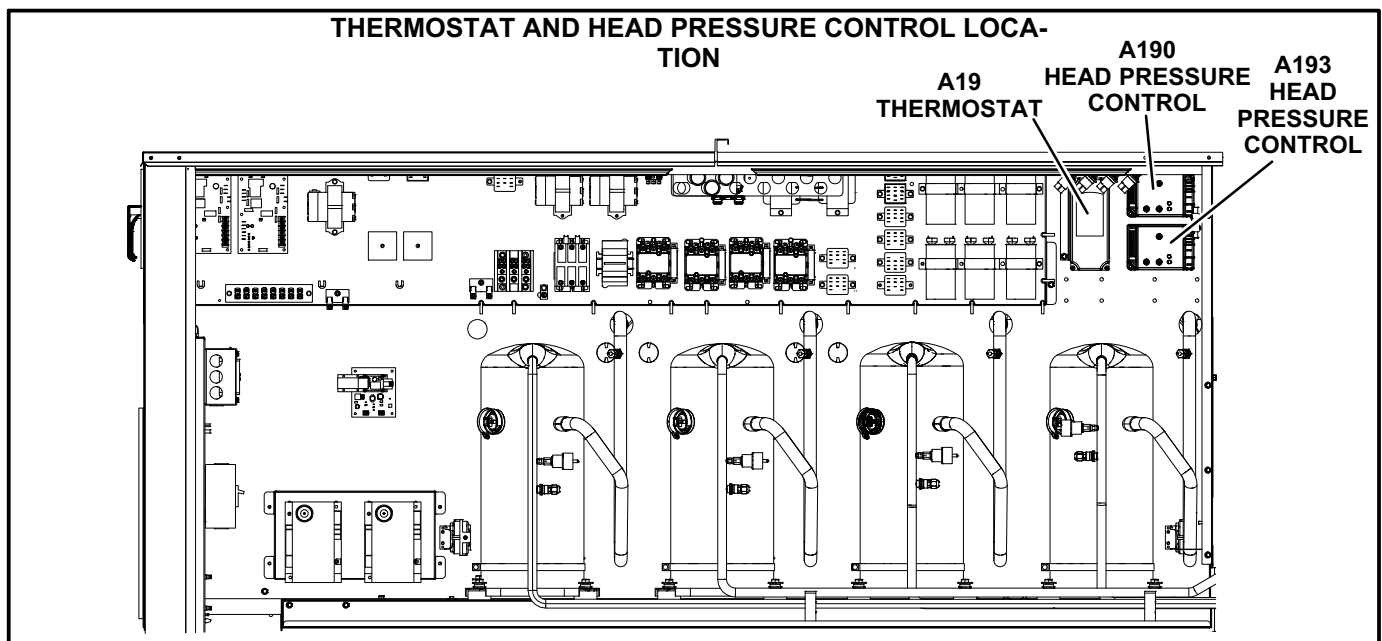

FIGURE 1
- 2- Install the head pressure controls in the control section as shown in figure 1. Secure with self-tapping screws (provided).